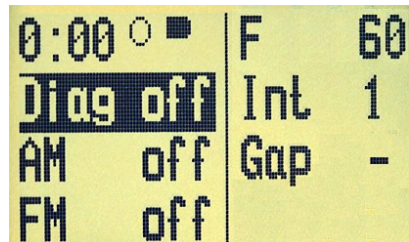

Fig. 3
5.4 Press the button "▽" to switch to the **Menu mode** (Fig.3). Press the button "▽" at an interval of no longer than 2 seconds to make sure that the highlighting switches cyclically between the lines.